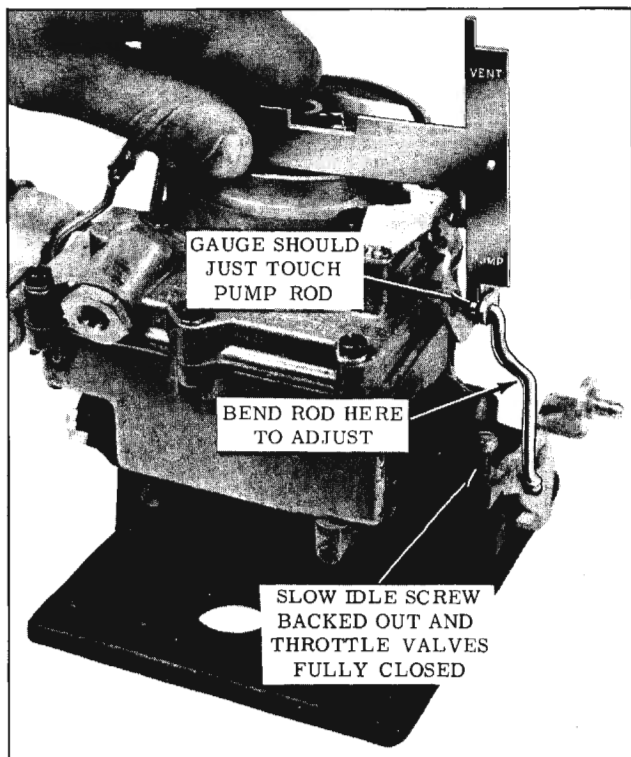

Fig. 9-48 Pump Rod Adjustment
1. Using Gauge Set 100-31 check the distance from the top of the air cleaner mounting ring to the top of the pump rod. The leg of the gauge marked "Pump" should just touch the top of the pump rod. (Fig. 9-48)